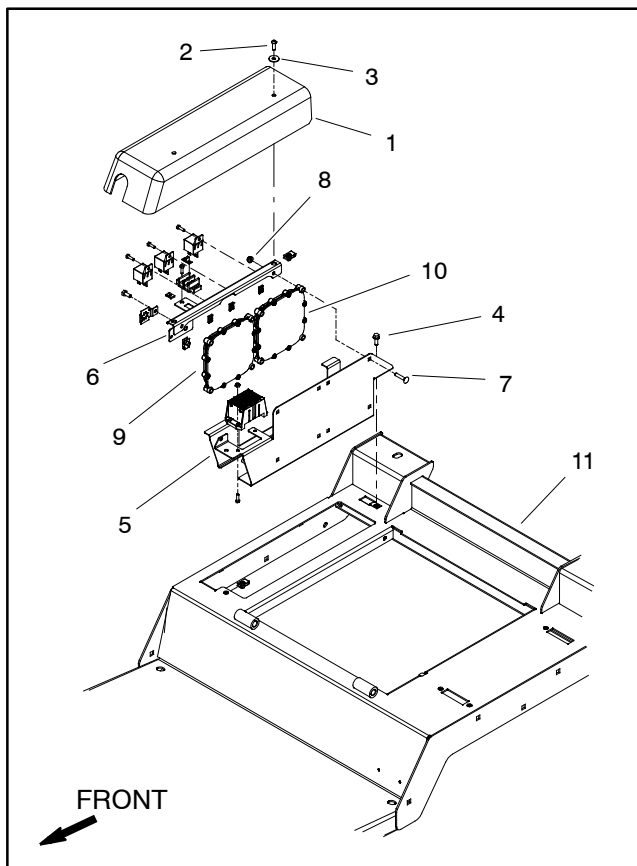

Figure 63
Groundsmaster 4100-D and 4110-D machines use two (2) Toro Electronic Controllers (TEC) to control electrical system operation. The controllers are attached to the operator platform under the controller cover (Figs. 63 and 64).
If removal of the TEC controllers is necessary, label the controllers to make sure they are properly connected to the machine. The two (2) TEC controllers are visually identical but they have different software and therefore cannot be interchanged. The power mount (item 5 in Fig. 63) can be separated from the operator platform and carefully lifted from the platform to access the controller fasteners.